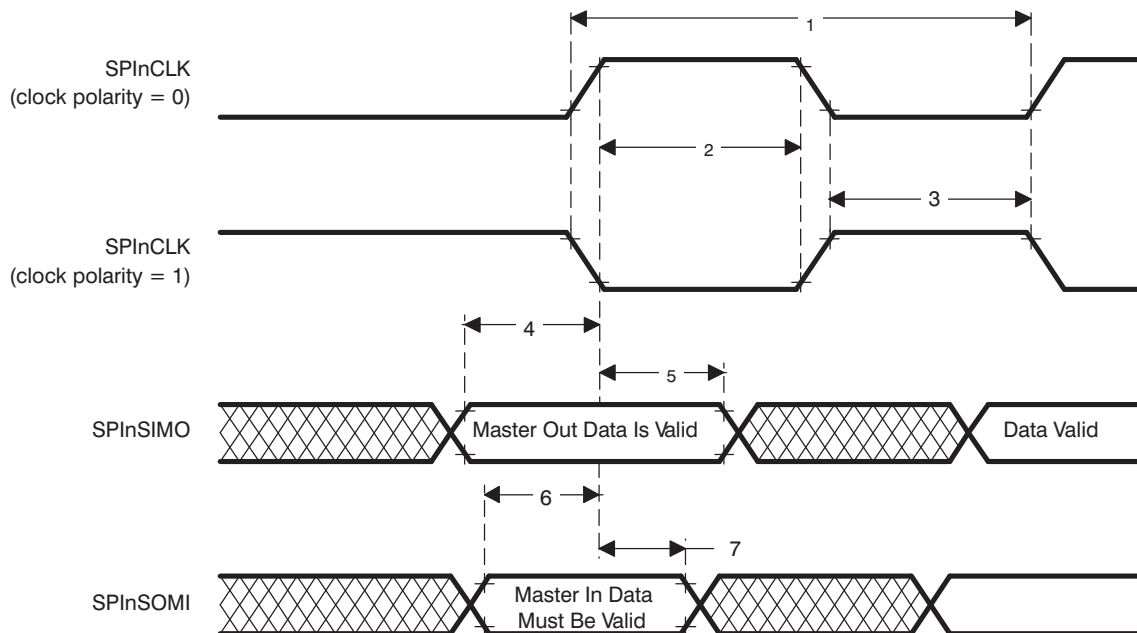

Figure 17. SPI Master Mode External Timing (CLOCK PHASE = 1)
(CLOCK PHASE = 1, SPInCLK = output, SPInSIMO = output, and SPInSOMI = input)^{(2) (3) (4)} (see Figure 17)